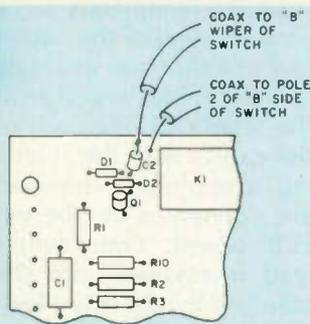

Fig. 4. Corner of top side of control board showing location of C2 and coax cable connections.
c. Locate the rf changeover board. This board has the two relays and is located behind the swr meter. Remove the rf changeover board from the amplifier by extracting the two screws holding it to the terminal strips and gently prying it loose with a screwdriver. Locate C2 on the board (see Fig. 4) and unsolder the lead connected